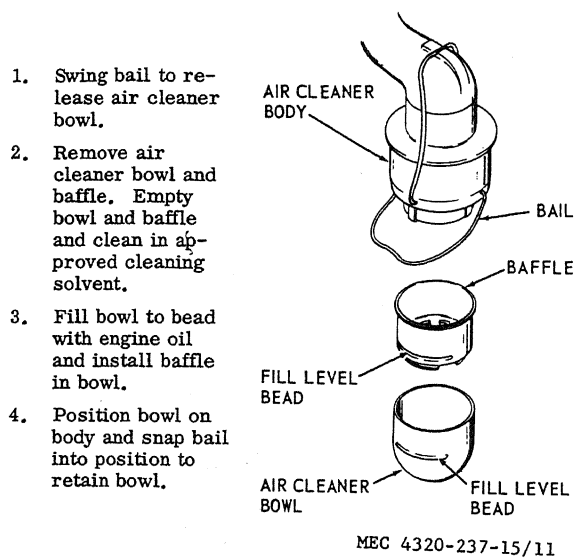

Figure 11. Air cleaner service.
- (1) The crankcase oil level must be checked frequently, as oil consumption may increase.
- (2) The oil may require changing more frequently than usual because contamination by dilution and sludge formation will increase under cold weather operating conditions.
f. *Air Cleaner Service.* Refer to figure 11 and service the air cleaner.